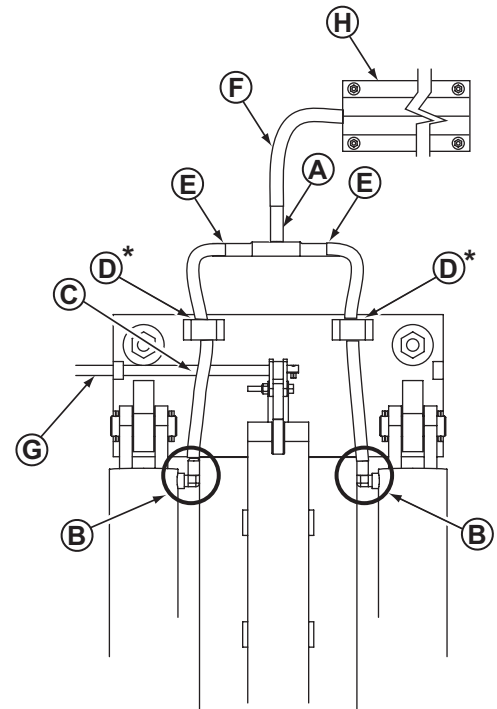

Fig. 6
- C. Connect the long hydraulic hose to the branch on the JIC tee fitting, Fig 6 (F).
- D. Connect a male pipe thread to male JIC elbow to the port near the base end of each cylinder. The fittings should face toward the front of the lift (towards conduit or hose guard) and up 5 to 10 degrees, the cylinders will rotate upward as the lift rises, Fig. 6 (B). For rear approach hose installation face rearward down 5 to 10 degrees.
- E. Connect the short hydraulic hoses to the elbows on the cylinders, Fig. 6 (B). These connections should be hand-tight only. Feed the free ends of the hoses thru the hose guides, Fig. 6 (C & D) . (Ignore for rear approach hose installation.)
- F. Connect short hoses to the runs on the JIC tee fitting, Fig. 6 (E). For rear approach hose installation to stainless tubing also position tubing clamp adapters over concrete anchors and place clamp over tubing as shown. Connect 90 degree JIC elbow to swivel tee and then long hose to male adapter.
***For recessed installations, hose guides (D*) are not used. Cylinders are rotated 180° from positions shown in Fig. 6.**